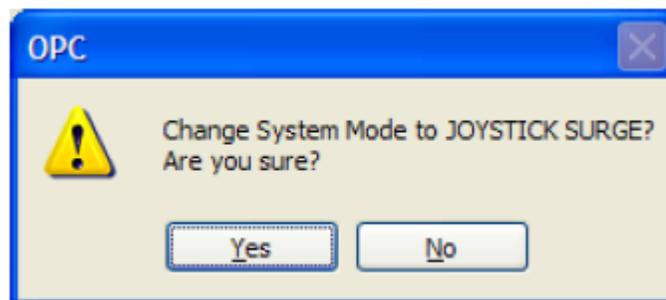

Figure 2: Confirmation of Mode change "Are you Sure"
1. If available from DP vendor and it will not adversely impact the vessel's Industrial mission, consider installing a confirmation dialog box function: see Figure 2: Confirmation of Mode change "Are you Sure"